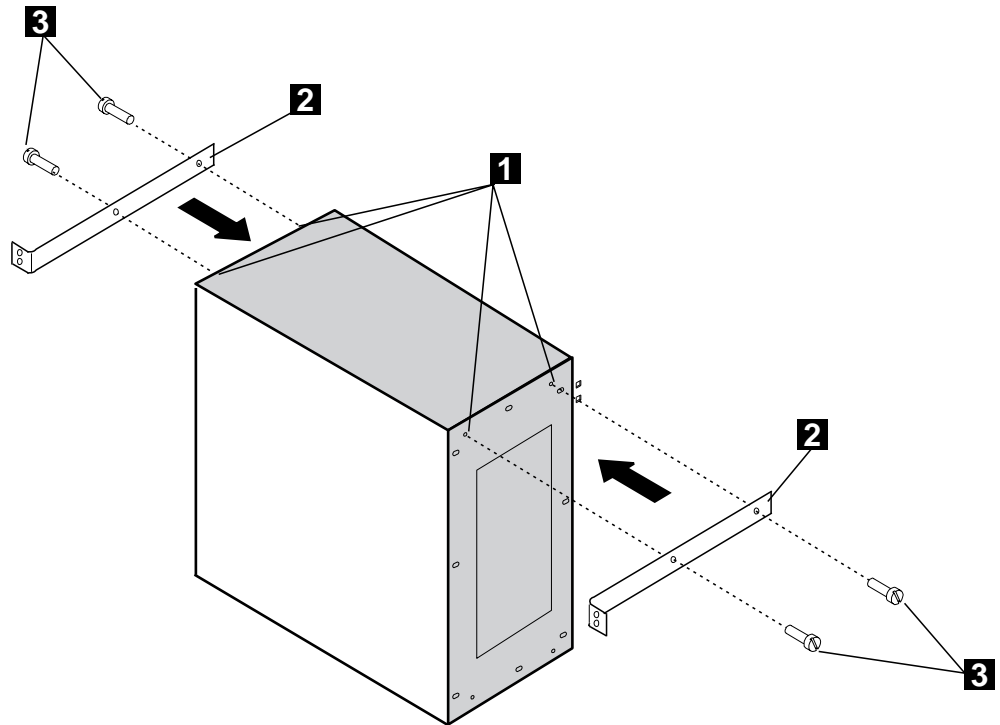

Figure 1-4. MAE Brackets Installation
5. \_\_\_\_ Refer to Figure 1-4, **remove** the four screws **1** installed on the MAE frame, then **install** on the left and right side of the MAE two brackets **2** (PN 0782961) using four screws **3** (PN 1621191).